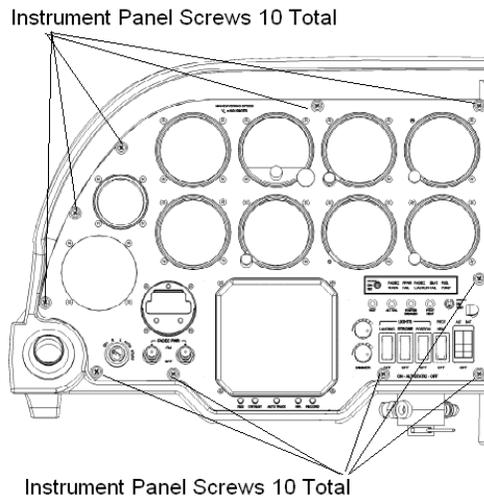

Figure 34-6 Location of the Screws Securing the Instrument Panel
4. Remove the ten screws securing the instrument panel to the instrument console. See Figure 34-6 for location of the screws.
5. Remove the ten screws securing the instrument panel to the instrument console. See Figure 34-6 for location of the screws.